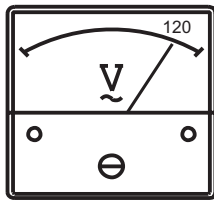

Figure 50. Voltmeter
6. The generator's **AC voltmeter** (Figure 50) will display the generator's output in **VOLTS**.